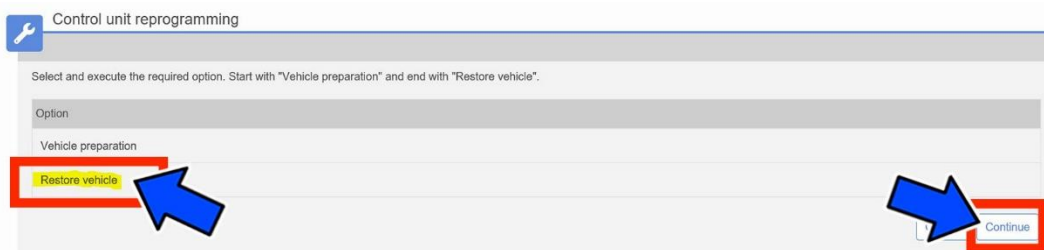

Figure 13 - Restore Vehicle
34. Select “**Restore Vehicle**” and then click “**Continue**” (Figure 13).